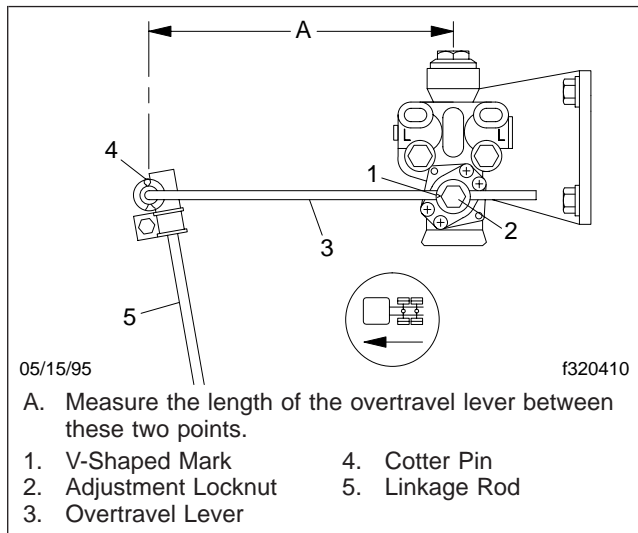

Fig. 9, AirLiner Overtravel Lever and Linkage Rod Measurement
4. Check the length of the overtravel lever between its pivot points. See **Fig. 9**, Ref. A.